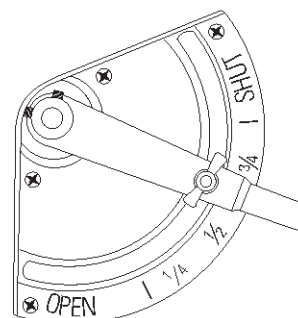

Figure 9-3. Damper Control
1. The damper control (Figure 9-3) is located on the top of the cabinet.